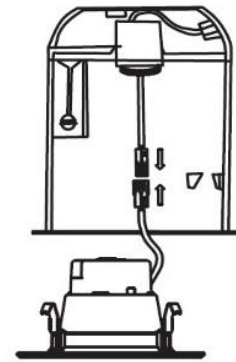

Figure 2
Step 3. Connect the lamp connector with lamp base connector. (Figure 2)